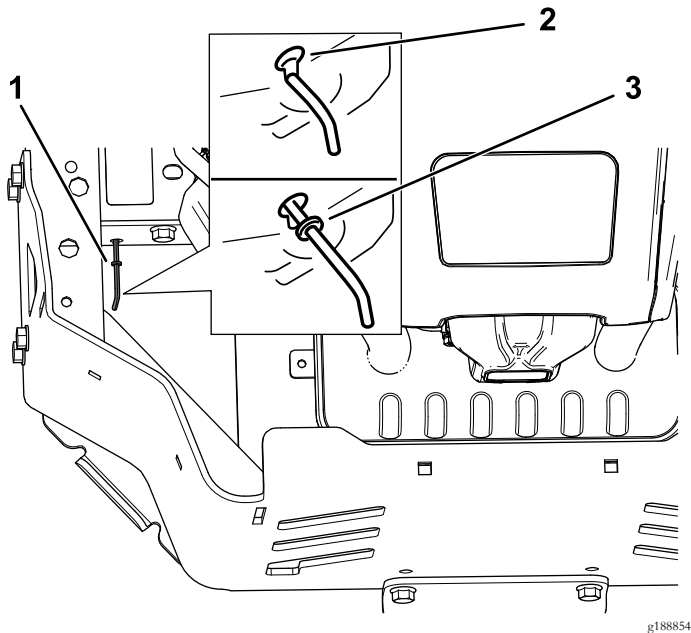

Figure 38
4. Move the bypass levers forward through the key hole and down to lock them in place (Figure 38).
Move the bypass levers rearward through the keyhole and down to lock them in place as shown in Figure 38.